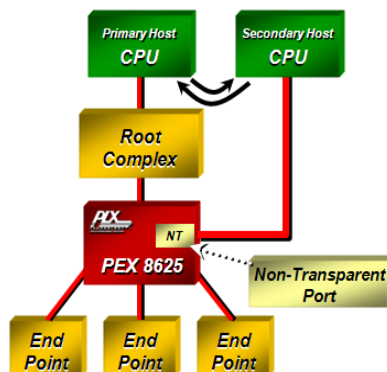

Figure 3. Non-Transparent Port
In Single-Host mode, the PEX 8625 supports a **Non-Transparent (NT) Port**, which enables the implementation of **dual-host systems** for redundancy and host failover capability. The NT port allows systems to isolate host memory domains by presenting the processor subsystem as an endpoint rather than another memory system. Base address registers are used to translate addresses; doorbell registers are used to send interrupts between the address domains; and scratchpad registers (accessible by both CPUs) allow inter-processor communication (see Figure 3).